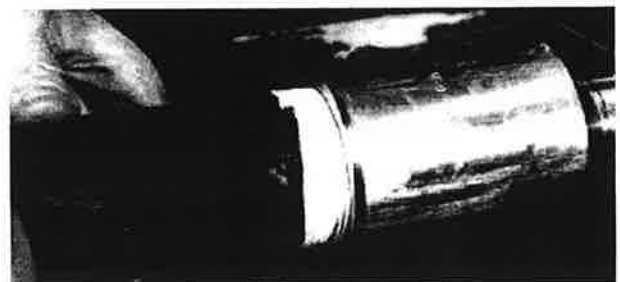

Figure 27. Attach Adapter to Drilling Machine
- A. Install adapter. Use sealing tape or thread sealing compound on threads of the valve adapter. See Figure 27.